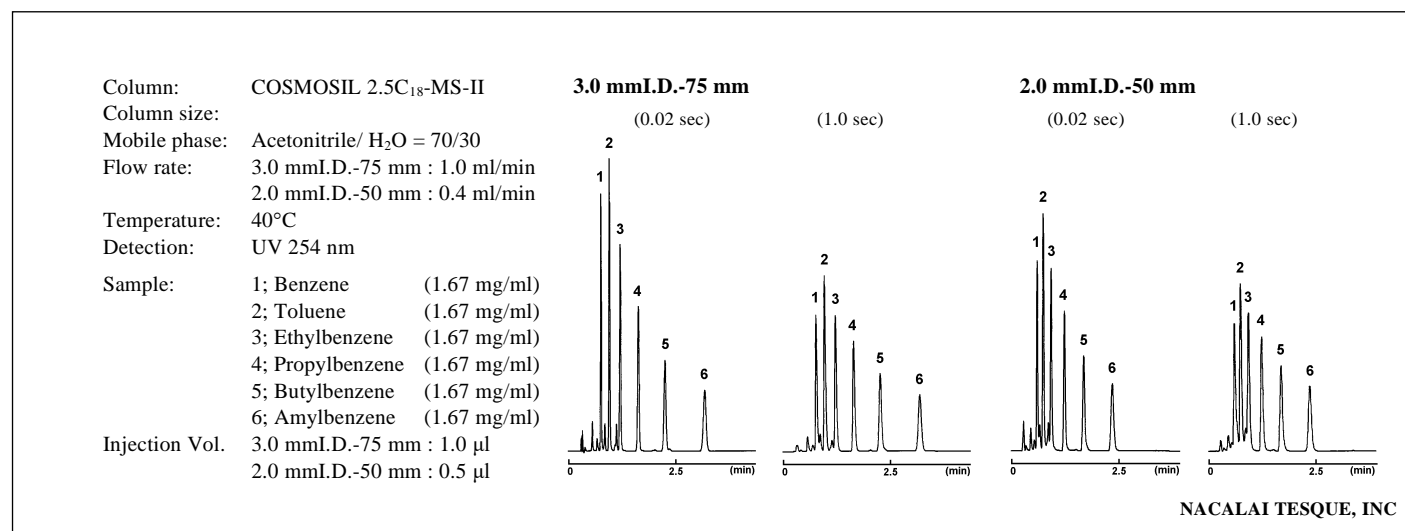

Figure 1. Effect of response time of detector
2. When using normal HPLC equipments, set the response time of detector under 0.05 second. [Fig.1]